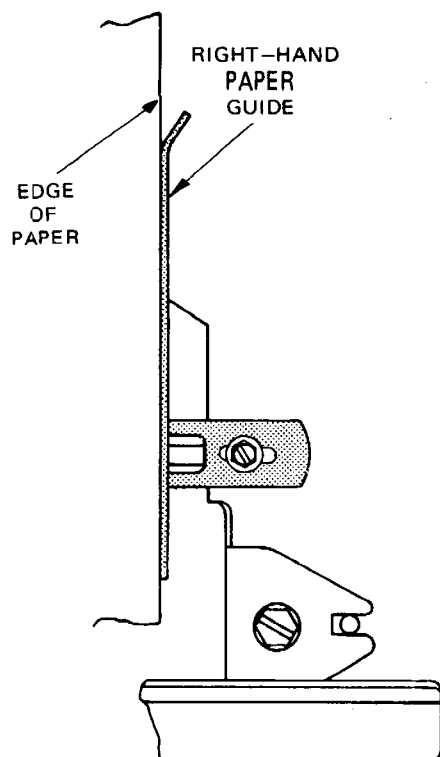

Fig. 4.116 RIGHT-HAND PAPER GUIDE
- 125.1 Load a roll of paper into the machine. Turn the platen knob and check that the roll can be unwound freely yet is located snugly between the left-hand and right-hand paper guides, Fig. 4.116.